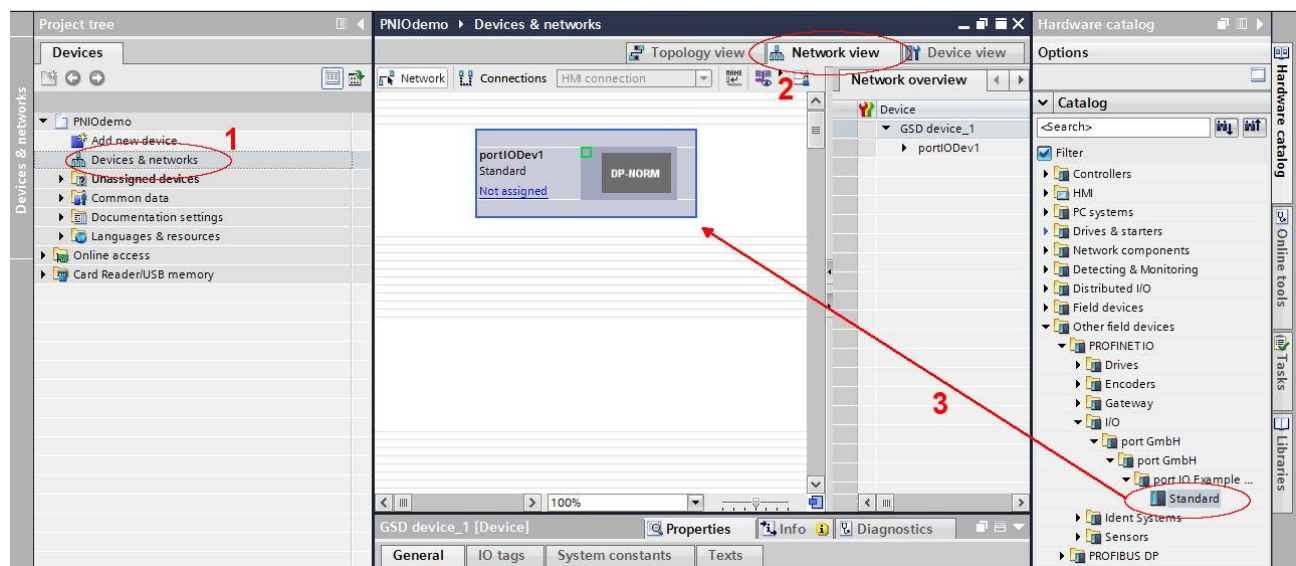

Figure 4-1: Add device to project
4. Add the RZ/N device to the project (Figure 4-1):